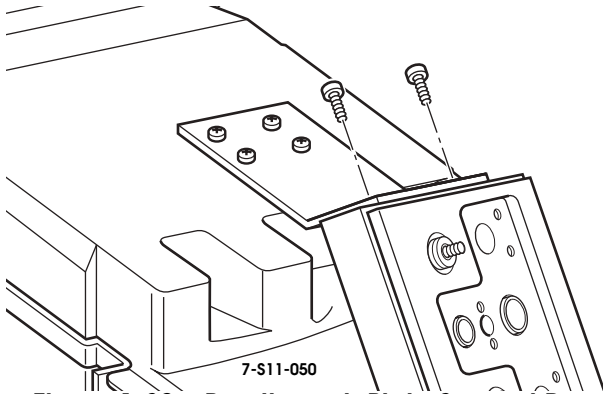

Figure 1-82: Passthrough Plate Support Removal
19. Remove screws securing passthrough plate support bracket to the main unit (Figure 1-82).